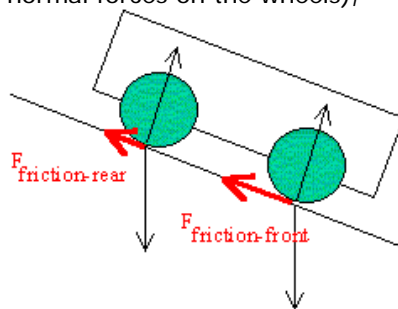

Figure 2
Explanation: When a wheel is rolling, it is governed by static friction. When a wheel is sliding, it is governed by kinetic friction. The coefficient of static friction is higher than the coefficient of kinetic friction (see, for instance, the demonstration "Sliding towel" in this database). Figure 2 shows the effect of this on the cart in case of blocked wheels at the rear: The frictional force at the rear wheels is lower than that on the front wheels (supposing equal normal forces on the wheels),
- Due to the geometry of the demonstration the normal forces on the front - and rear wheels are not equal: The normal force on the front wheels is higher than the normal force on the rear wheels. In case of locking the rear wheels the difference in the friction forces (see Figure 2) is still larger and so the skidding effect will be even stronger. But in the situation where we lock the front wheels, the difference between the normal forces is contra-productive (even a front wheel lock can then produce a skid). The longer the car, the smaller the difference between the normal forces: so use a relatively long car to have a successful demonstration. (Having done the demonstration with a long car it can be stimulating to do it also with a short one.)